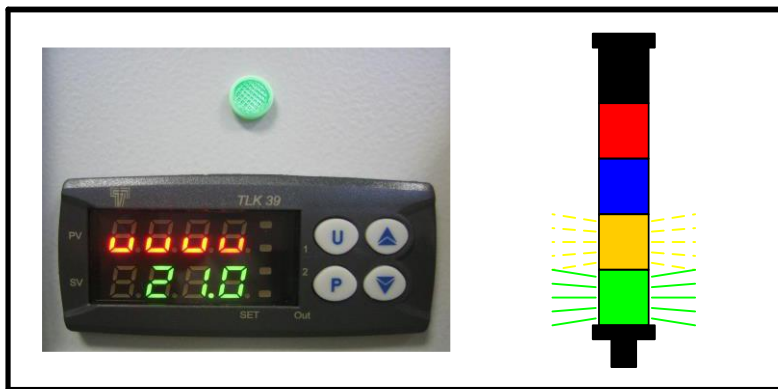

FIG 9
- 2a. After approximately 5 seconds, the Controller display will change. If no output temperature signal is available from the printer, the controller will display 'UUUU' and the Orange beacon segment flash quickly. The TCU will not start (FIG 9).